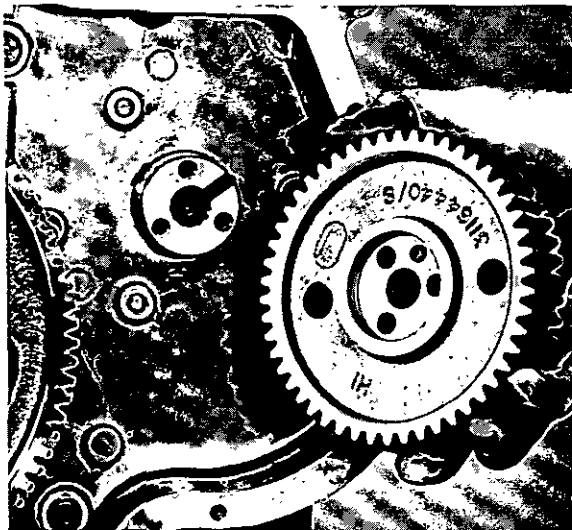

Fig. G.7
4. Remove fuel pump gear, taking care not to damage the dowel (Fig. G.7).